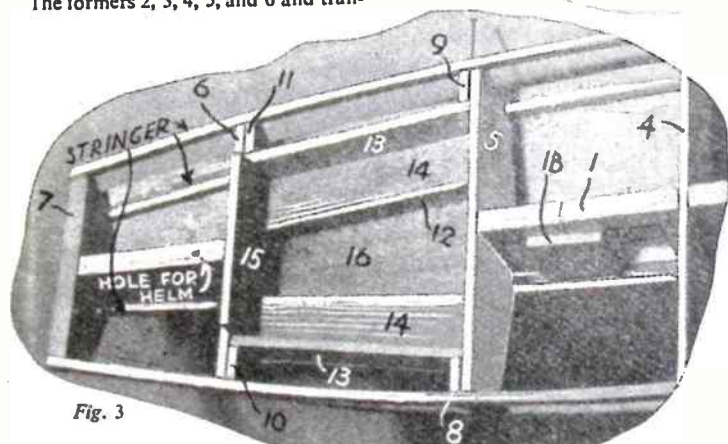

Fig. 3
completed. Glue in guides 8, 9, 10 and 11. The first two are glued to former 5, and 10 and 11 to former 6. They are glued inside the well, as is clearly shown in Fig. 3. They form ledges to which the seats inside are now added. First to the foot of the well glue parts 12 of the seats. The backs (13) and the seats themselves (14) are then glued in position. The floor (16) cut from thin plywood is trimmed exactly to shape before fixing. To finish the well, glue the shaped piece 15 at the back. All these operations are shown clearly in Fig. 3 and help in completing the well can also be gained by consulting the dotted lines on formers 5 and 6.